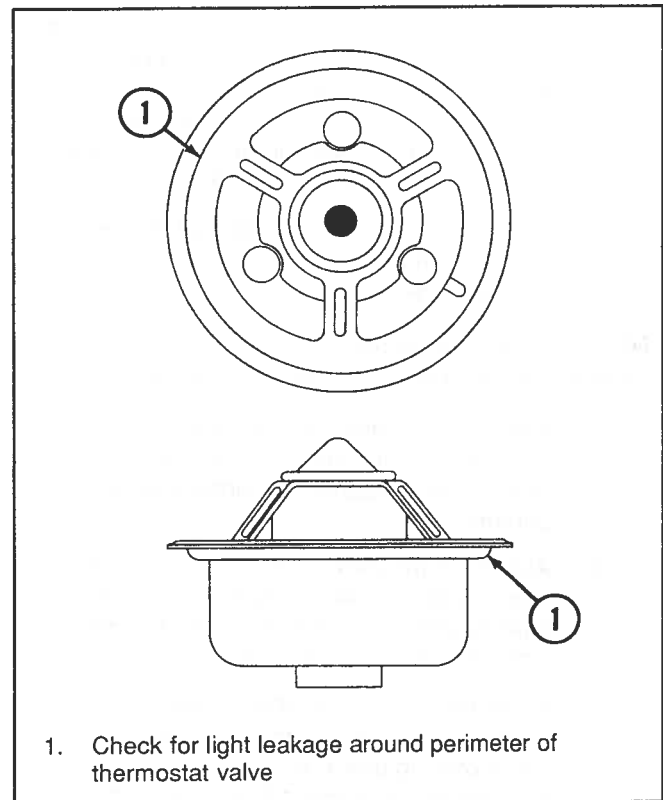

Figure 10-11. Checking Thermostat For Leakage
3. If thermostat is suspected of not regulating engine temperature, check thermostat for leakage by holding it up to a lighted background. Light leakage around the thermostat valve indicates that thermostat is not closing completely and should be replaced. A small amount of leakage at one or two points around the valve perimeter is acceptable (Figure 10-11).